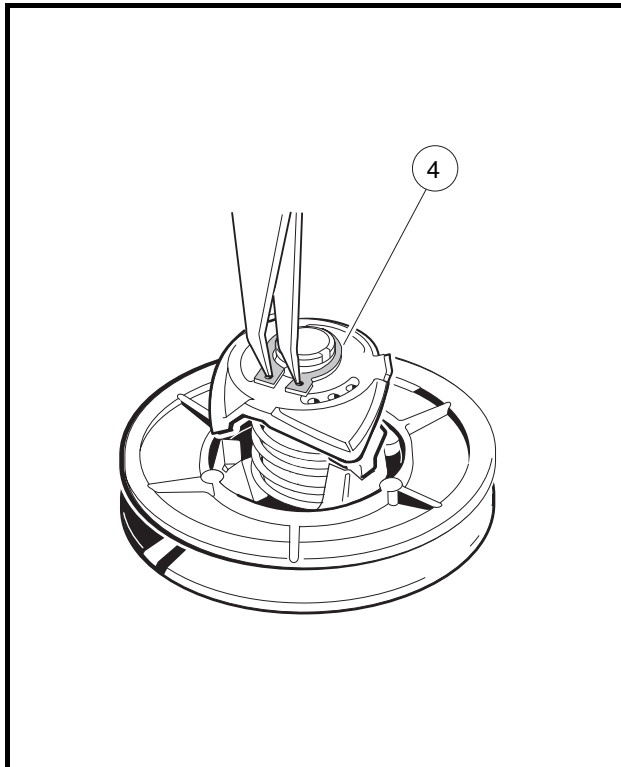

Figure 17-20 Remove Retaining Ring
1. Using external snap ring pliers, remove the retaining ring (4) (**Figure 17-20, Page 17-14**). See following **WARNING**.